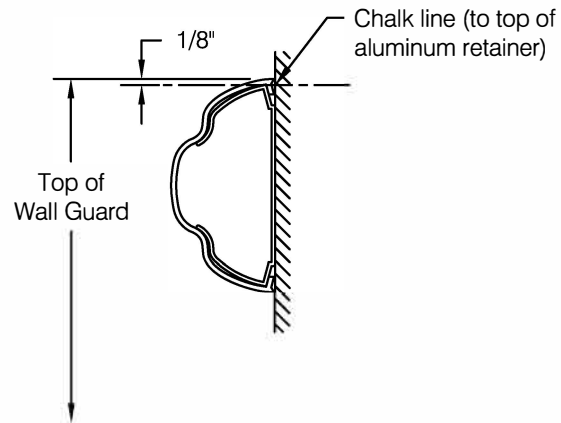

fig 1
Step 1: Determine top of wall guard and snap a chalk line 1/8" below to locate top of aluminum retainer, see **fig 1**.